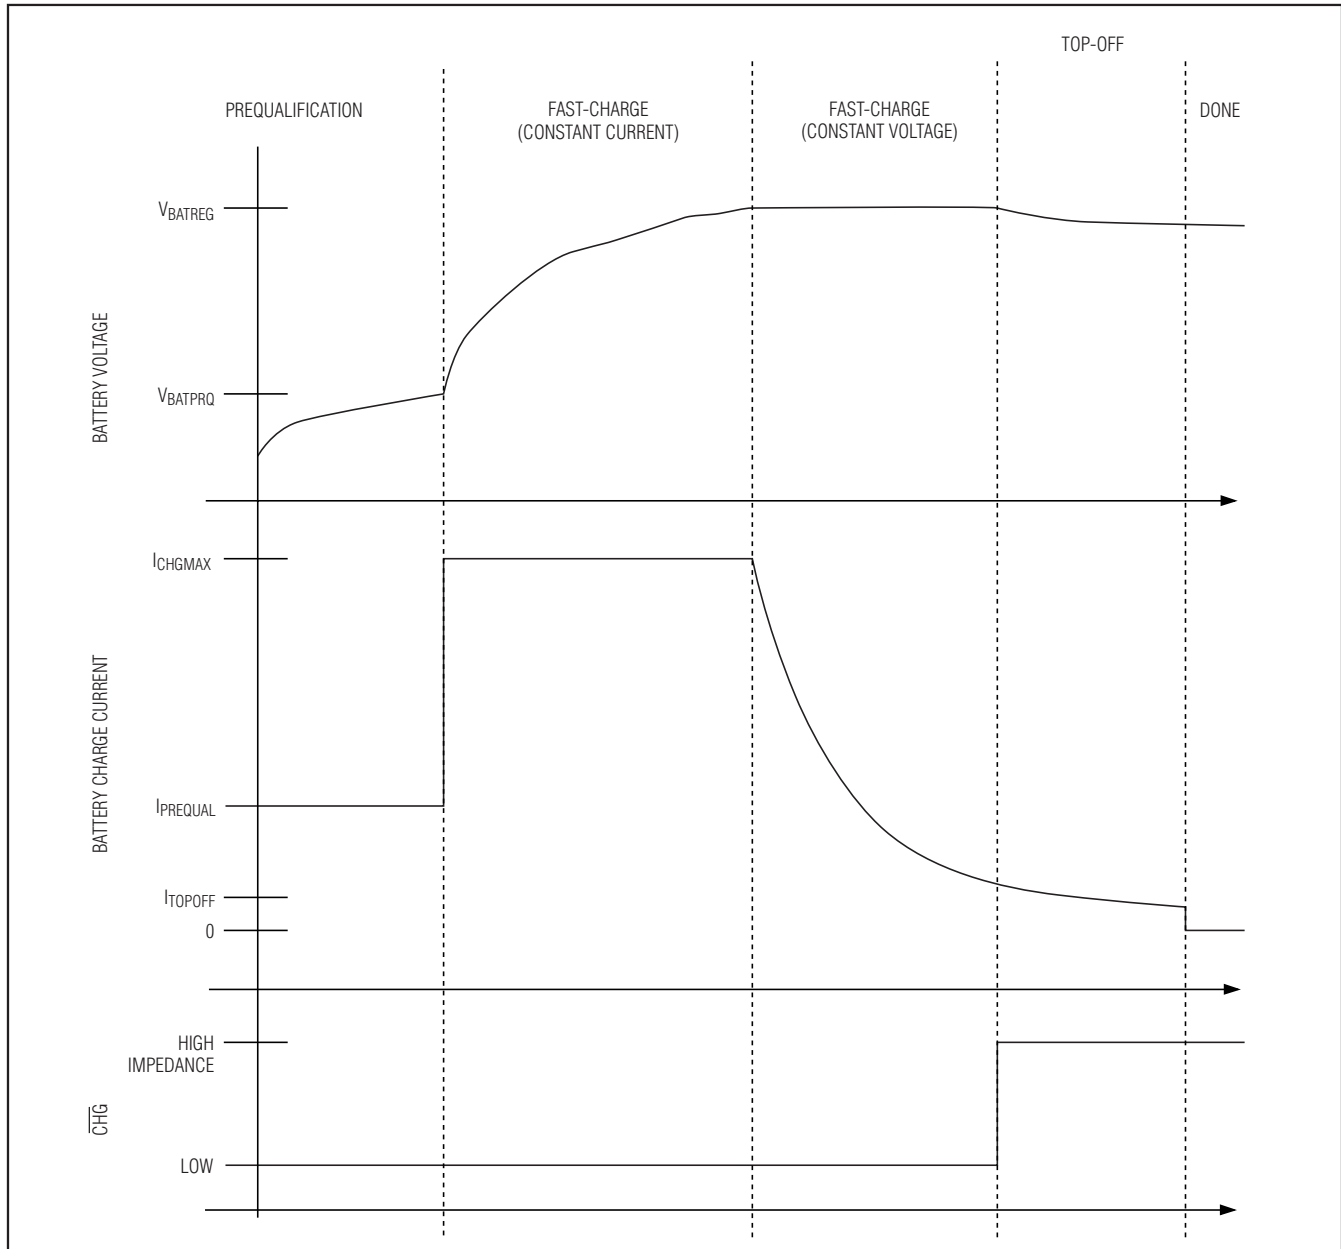
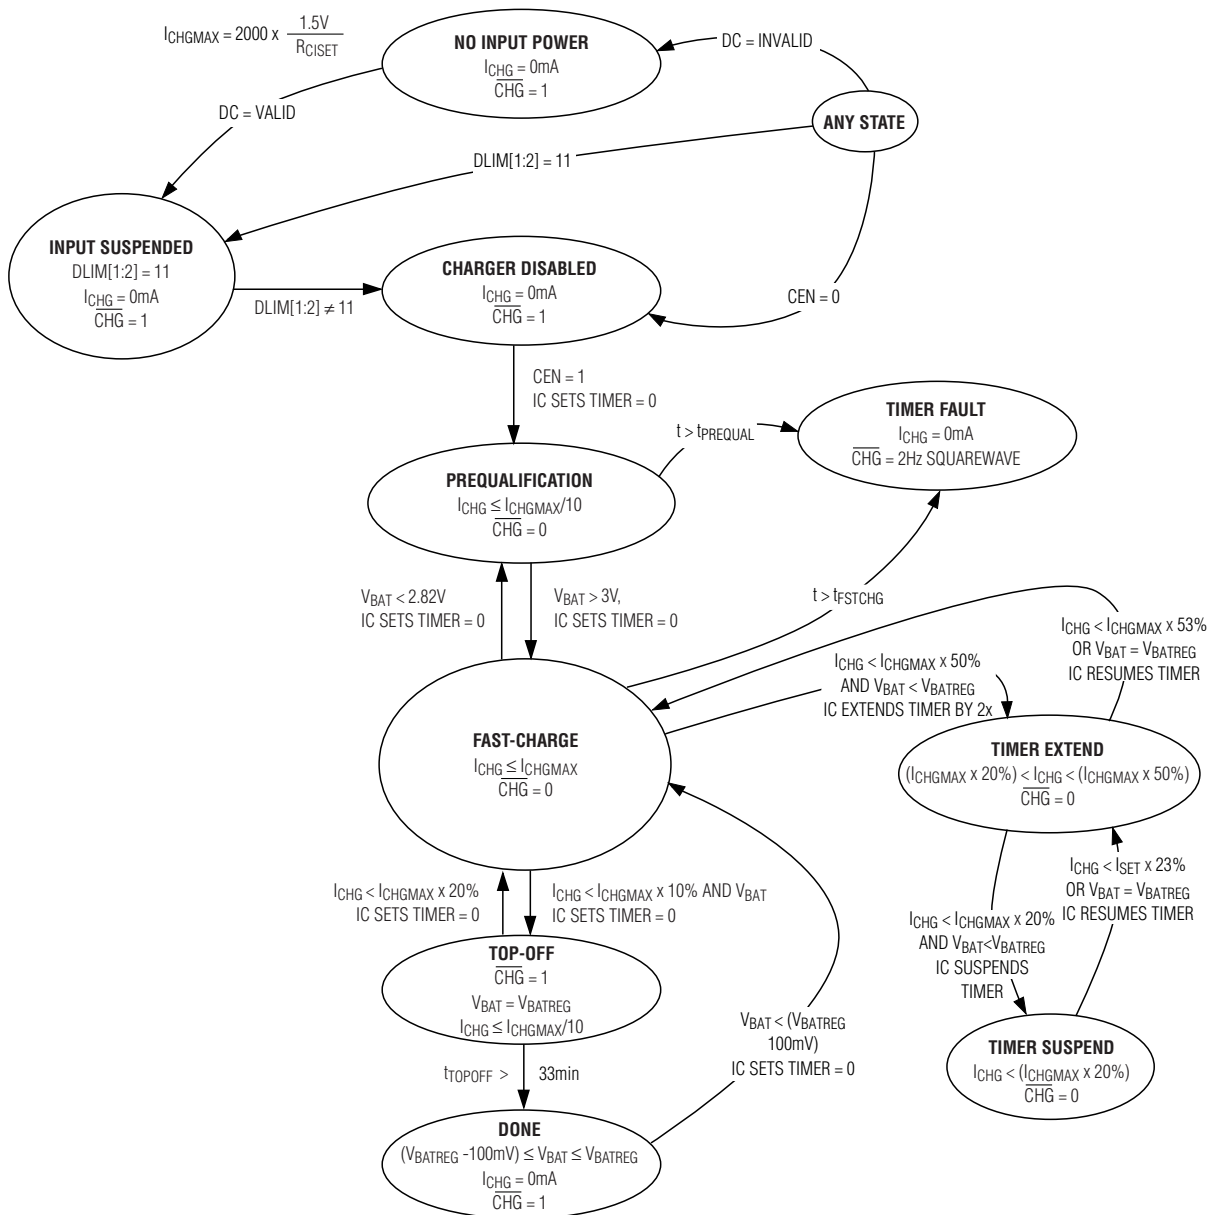

Figure 2. Li+/Li-Poly Charge Profile
Figure 3. Li+/Li-Poly Charger State Diagram
Figure 2 shows the typical Li+/Li-Poly charge profile for the MAX8819..., and Figure 3 shows the battery charger state diagram.
- The battery charger stops charging in done mode as shown in Figures 2 and 3.
$\overline{CHG}$  is an open-drain, active-low output that indicates charger status. As shown in Figures 2 and 3,  $\overline{CHG}$  is low when the charger is in its prequalification or fast-charge states. When a timer count is exceeded in either state,  $\overline{CHG}$  indicates the fault by blinking at a 2Hz rate and remains in that state until the charger is reset by CEN going low, removal of DC or setting  $DLIM[1:2] = 11$ .
As shown in Figure 3, a fault timer prevents the battery from charging indefinitely. In prequalification mode, the charge time is internally fixed to 33min.
While in the constant-current fast-charge mode (Figure 2), if the MAX8819\_ reduces the battery charge current due to its internal die temperature or large system loads, it slows down the charge timer. This feature eliminates
nuisance charge timer faults. When the battery charge current is between 100% and 50% of its programmed fast-charge level, the fast-charge timer runs at full speed. When the battery charge current is between 50% and 20% programmed fast-charge level, the fast-charge timer is slowed by 2x. Similarly, when the battery charge current is below 20% of the programmed fast-charge level, the fast-charge timer is paused. The fast-charge timer is not slowed or paused when the charger is in the constant voltage portion of its fast-charge mode (Figure 2) where the charge current reduces normally.